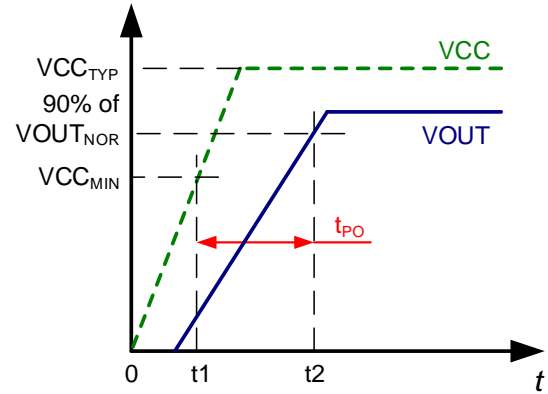

Figure 5: Power-On Time (t_{PO})
- t_2 : V_{OUT} settles within ±10% of its steady state value under an applied primary current (see Figure 5).